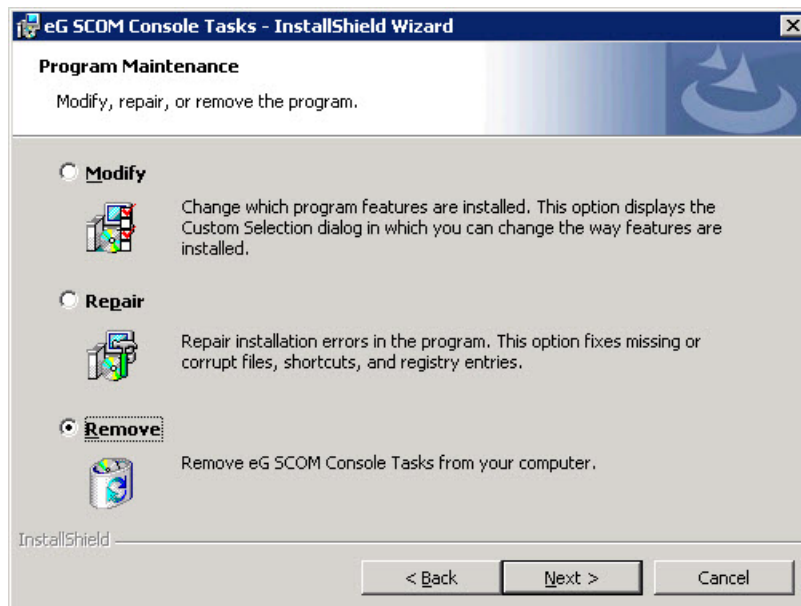

Figure 4.52: Selecting the Remove option
5. When Figure 4.52 appears, select the **Remove** option to begin the uninstallation. Then, click the **Next** button therein to proceed.